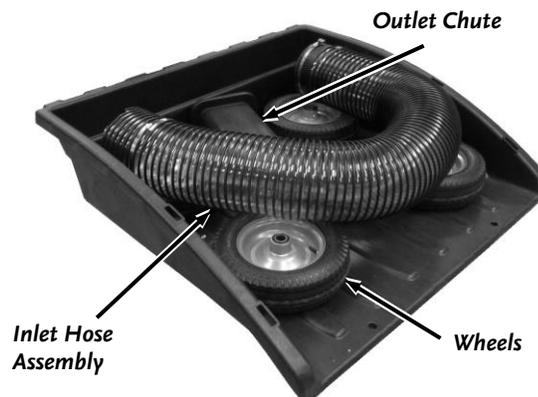

Figure 2
- Parts in Cart Bed (Figure 2):